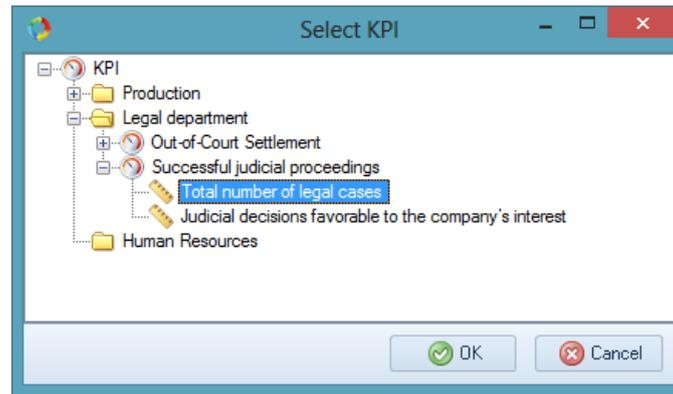

Fig. 41. Selecting KPI
- The window for selecting KPI indicator displays published KPI indicators. You must select the one you need to link to (Fig. 41).